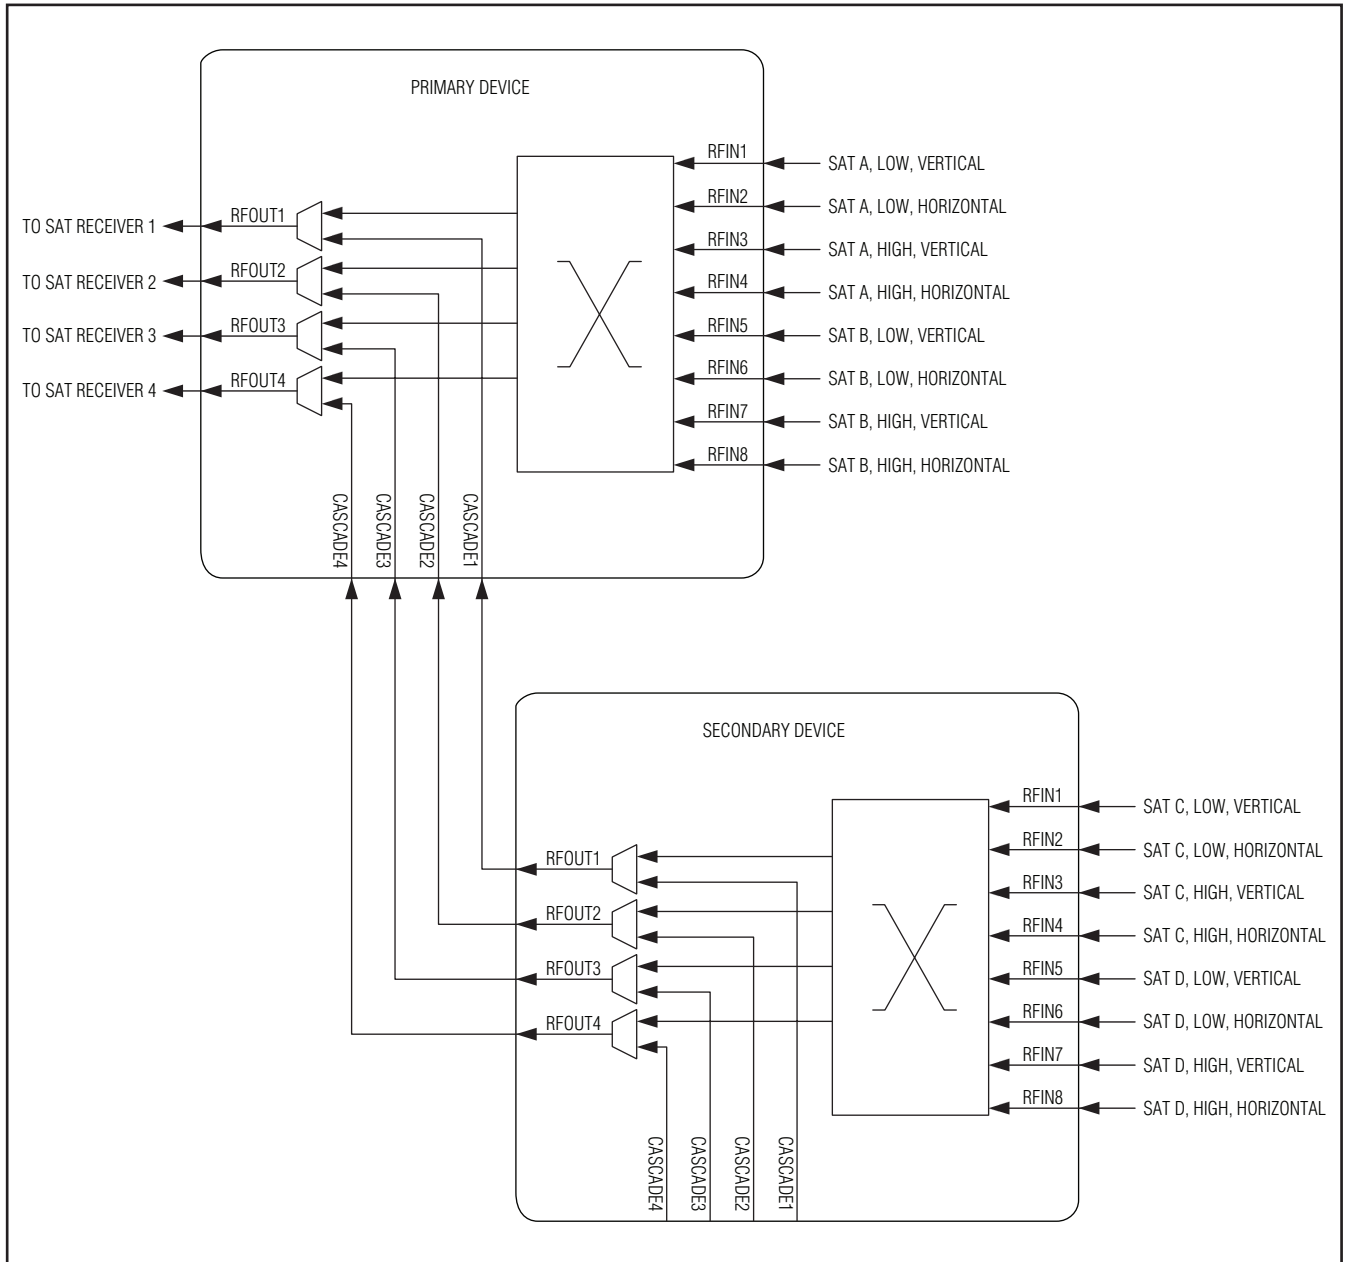

Figure 1. Typical Cascade Connection Between Two Satellite Switch ICs
**Note 1:** The primary device outputs connect directly to the satellite receivers. The secondary device outputs connect to the primary device through the cascade inputs. Also see Figure 1.